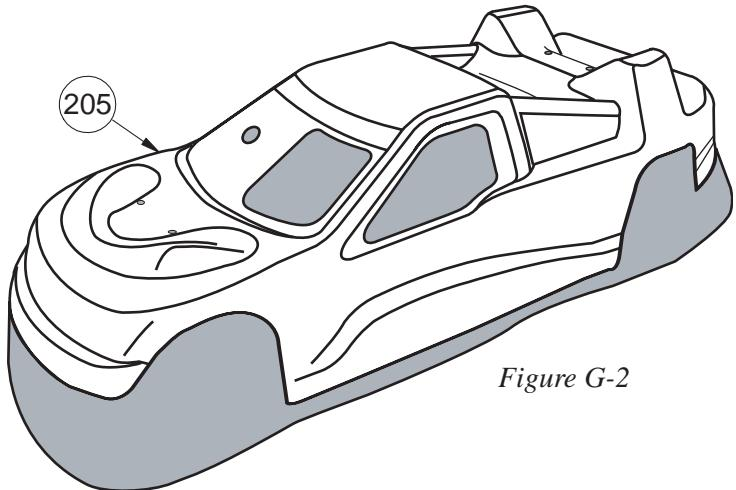

Figure G-2
- 1. After Painting, trim the Body (205) along the trim lines (as shown in Figure G-2, emphasized by the dark shading), there is an indented trim line around the Body which can be used as a guide for trimming.
- 3. Cut out both side windows and front window as shown in Figure G-2. These cut outs allow for air to pass through the Body and cool the engine.